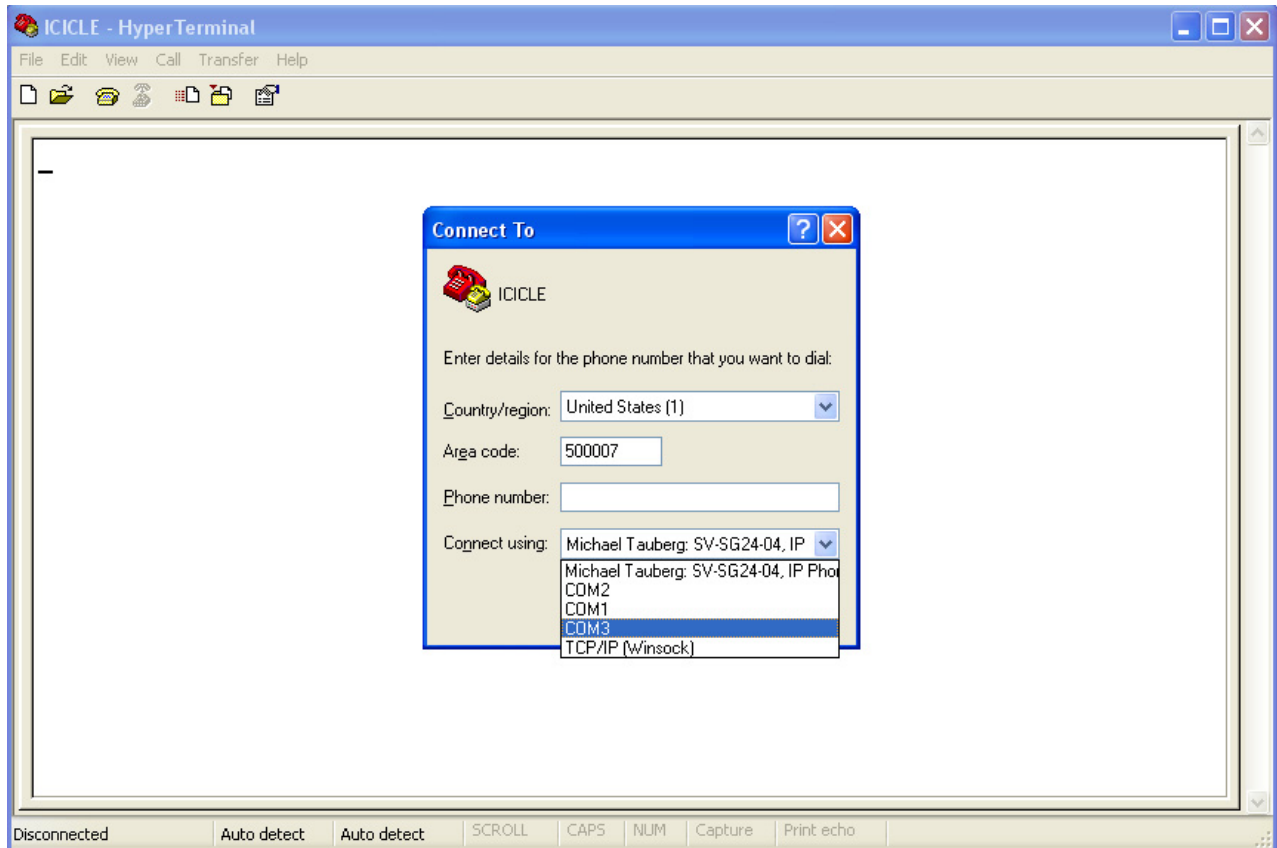

Figure C-7 · Select COM3 Serial Connection
3. The Connect To window will open. Select the **COM3** serial connection (Figure C-7).